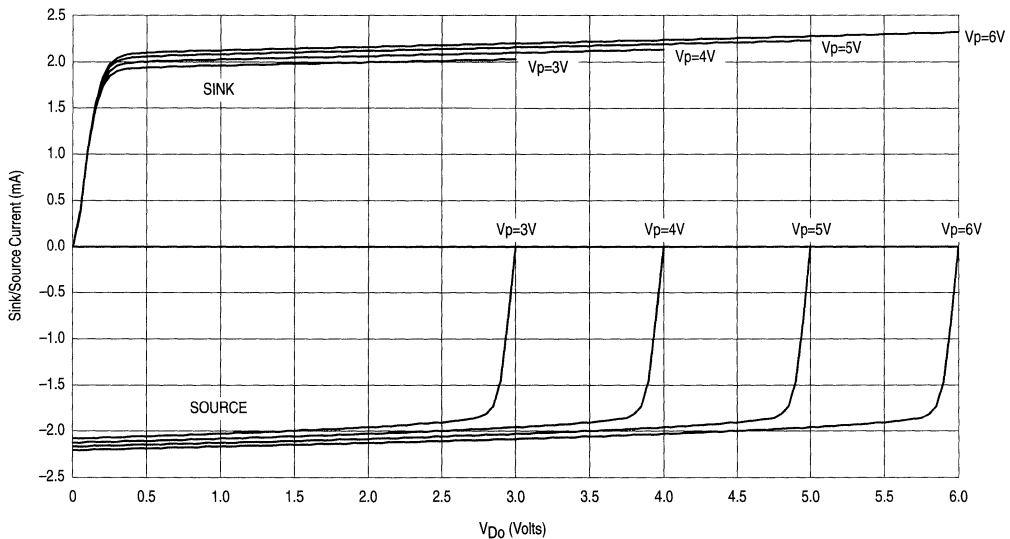

Figure 9. Typical MC12306 Charge Pump Sink and Source Current versus  $V_{DO}$
6. Source current flows out of the pin and sink current flows into the pin, typical charge pump sink and source curves are found in Figure 9.